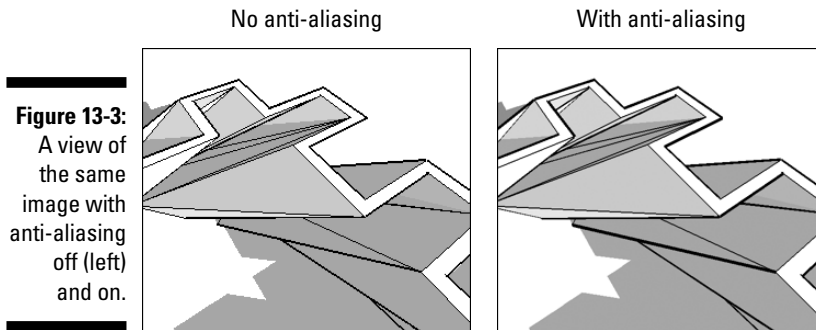

Figure 13-3:
- Anti-alias:** Because raster images use grids of colored squares to draw pictures, diagonal lines and edges can sometimes look jagged and, well . . . lousy. *Anti-aliasing* is a process that fills in the gaps around pixels with similar-colored pixels so that things look smooth. Figure 13-3 illustrates the concept. In general, you want to leave anti-aliasing on.